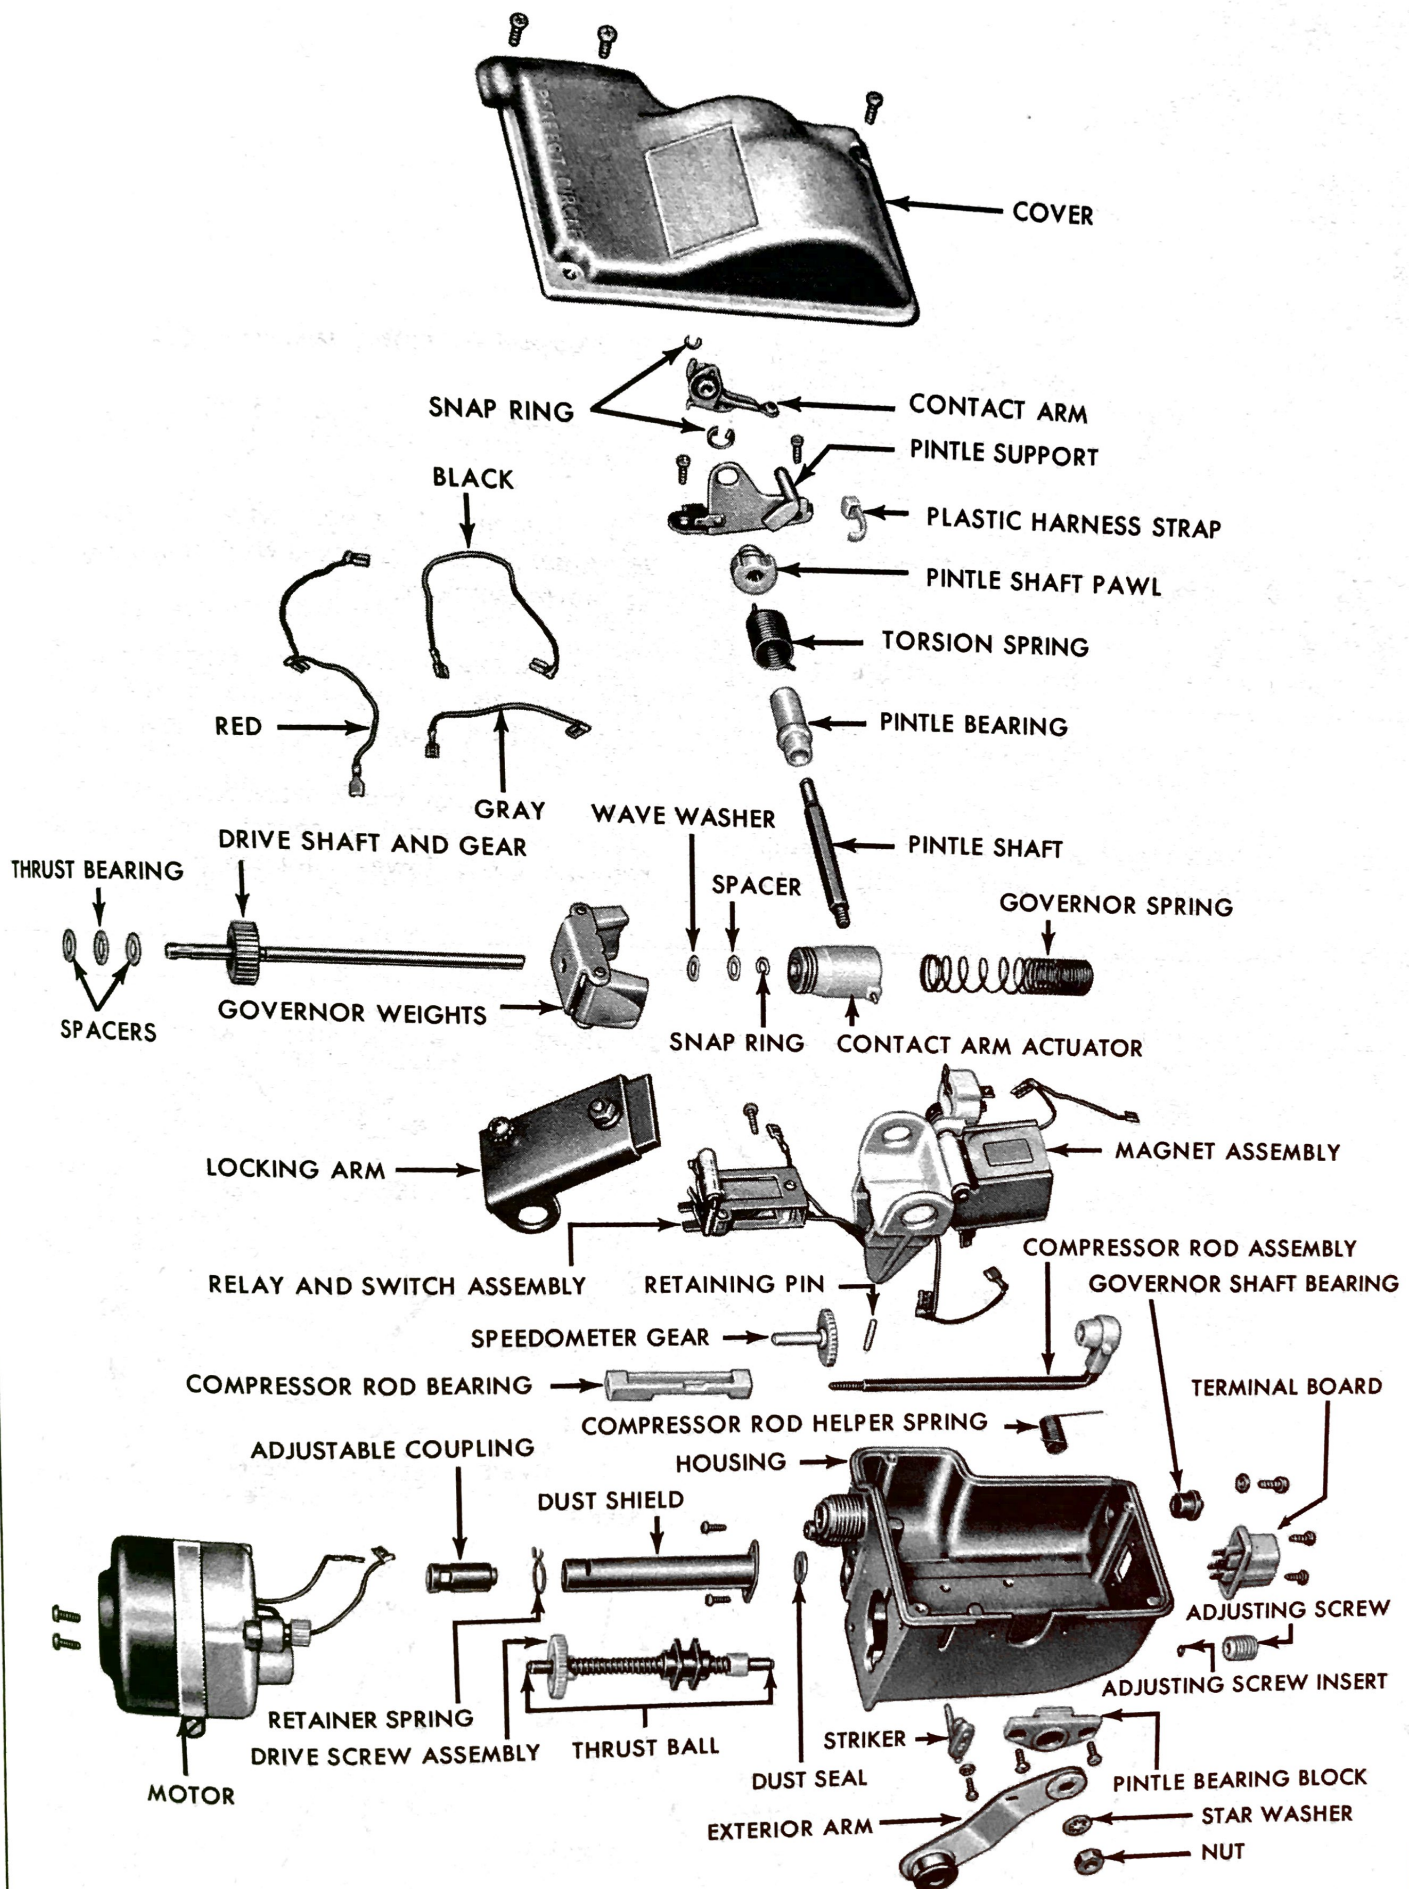

Fig. 15-21 Power Unit Disassembled
29. Power Unit Disassembly and Assembly (Fig. 15-21)